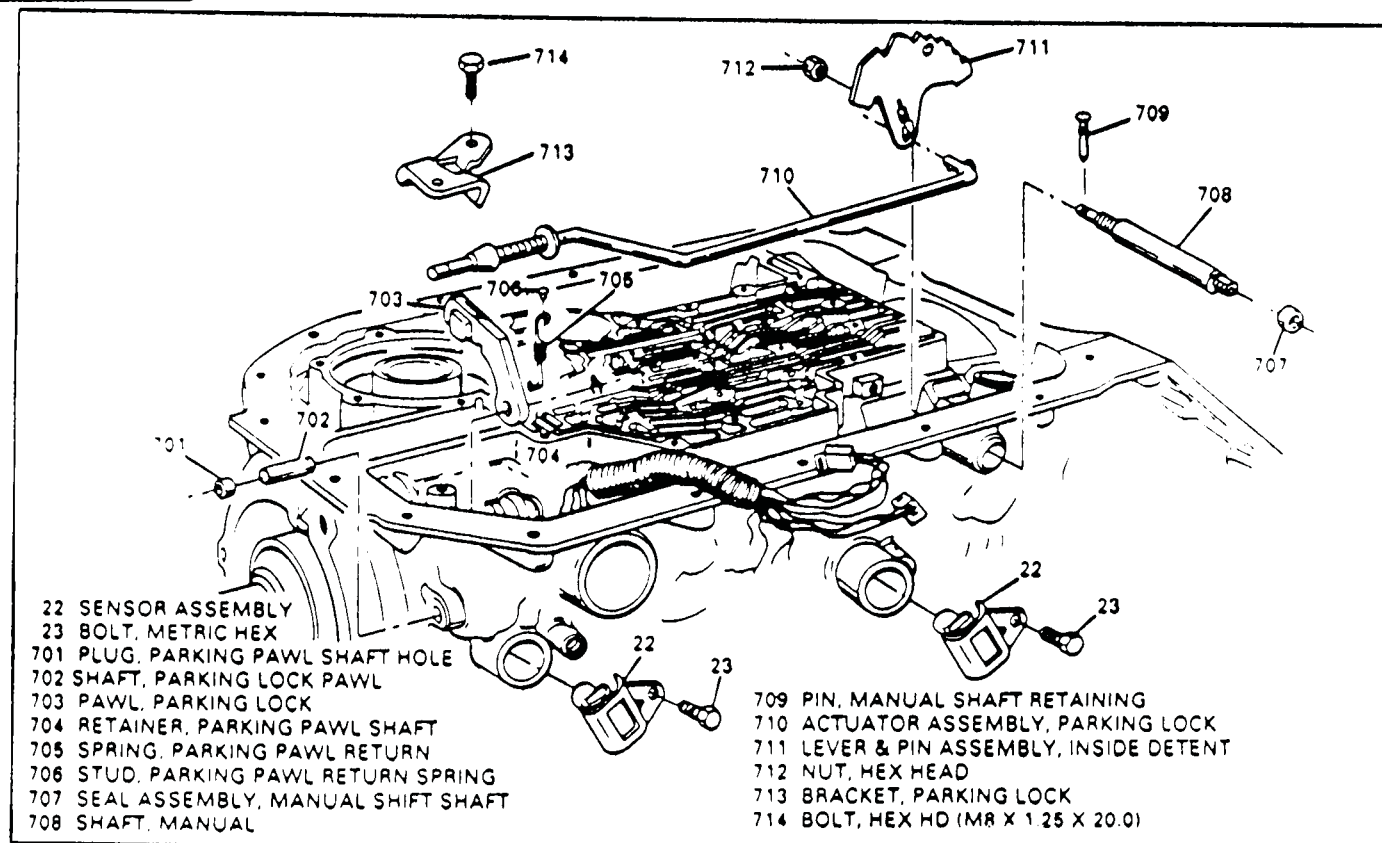

Figure 129
2. Install both speed sensor assemblies into case bores, and install the two retaining bolts (See Figure 129 & 130).